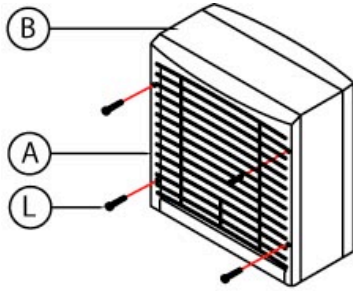

FIG 2
- 4.2 Remove the screws (L) from the front grille (A) to release it from the body of the fan unit (B). (FIG 2)
- 5.2 Remove the screws (L) from the front grille (A) to release it from the body of the fan unit (B) (FIG 2)